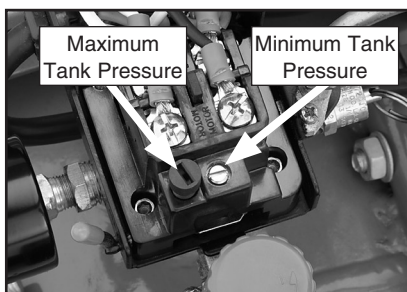

Figure 20. Pressure adjustment screws.
5. Turn the black plastic pressure adjustment screw (**Figure 20**) a half turn clockwise to increase the maximum tank pressure and a half turn counter-clockwise to decrease the pressure.